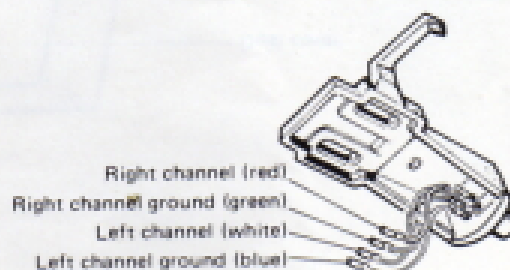

Fig. 2
2. The terminals on the accessory headshell are aligned as shown in Fig. 2. Check the location and polarity of each of the cartridge's terminal pins and then connect the lead wires, taking care not to get the polarities mixed up.